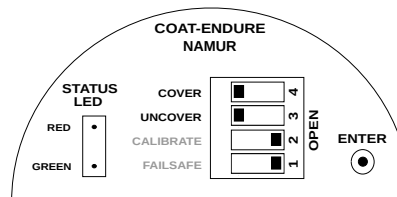

Figure 61: Switch Position Low Current Configuration
- Set the COVER and UNCOVER switch to CLOSE position as per Figure 61.